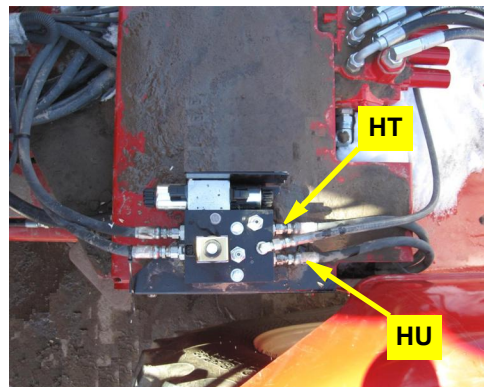

Figure 6b: Steering hoses connected at steering block
- b. Route the output hoses back and up to the hydraulic steering block and attach them to the **A** and **B** ports of the steering block (Figure 6b).